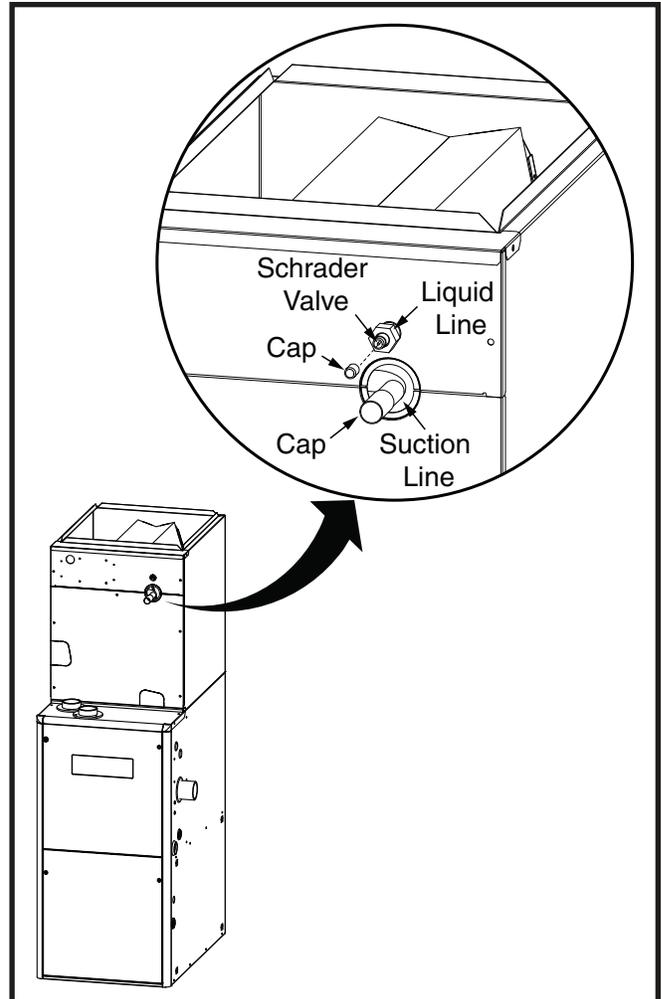

Figure 2. Suction and Liquid Line Locations
1. Remove the cap (Figure 2, page 5) from the end of the liquid line.